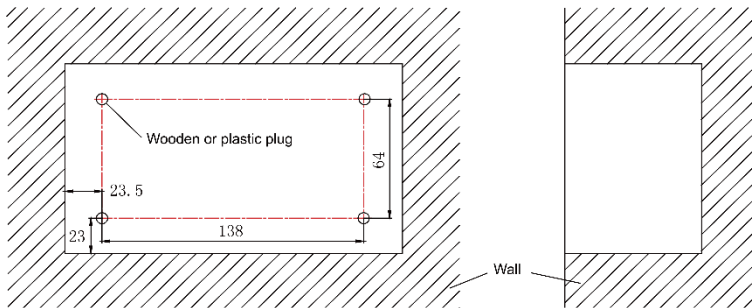

Fig.3.8 Diagram of Wooden or Plastic Plug
- 1) In case that the centralized controller is installed on wall, dig a hole that is the size of  $180\text{mm} \times 107\text{mm} \times 62\text{mm}$  and peg 4 wooden or plastic plugs on the wall according to fig.3.8.